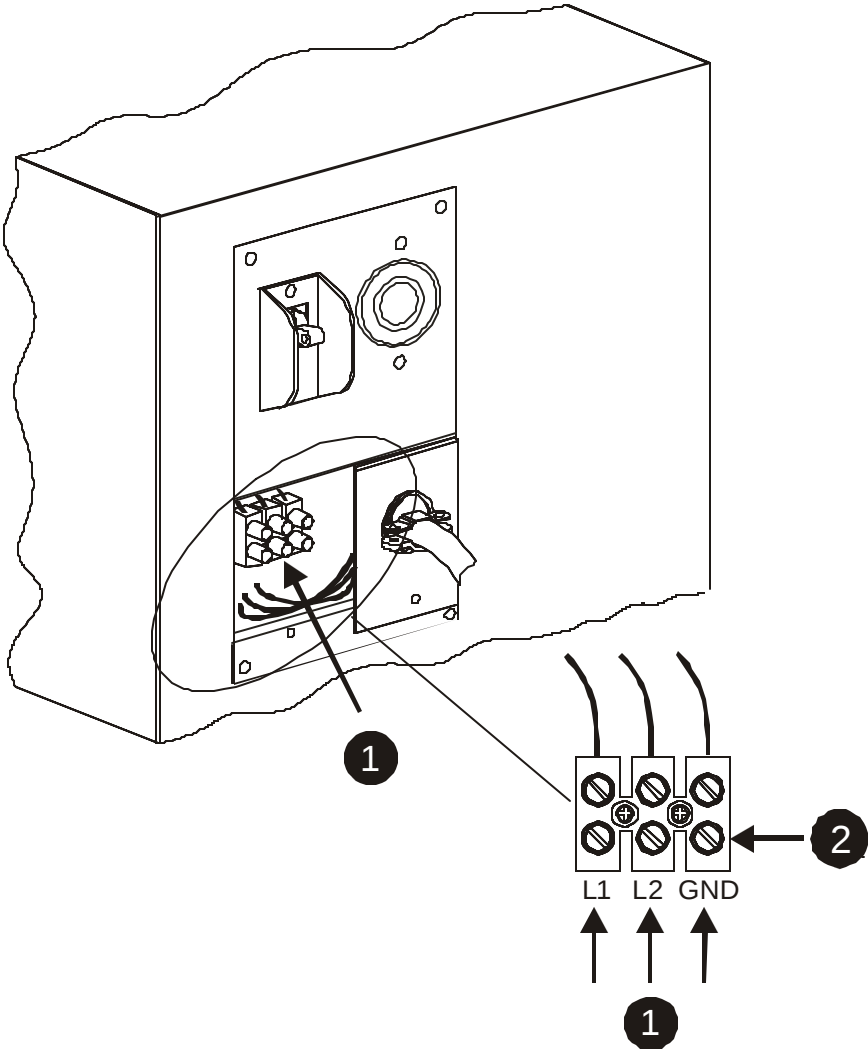

Figure 3.5 Install Wires to Terminal Block
- 1. Strip off 3/8 of an inch on each wire and install to the terminal block as shown in Fig. 3.5. Tighten screws securely. Make sure all wires are securely fastened.